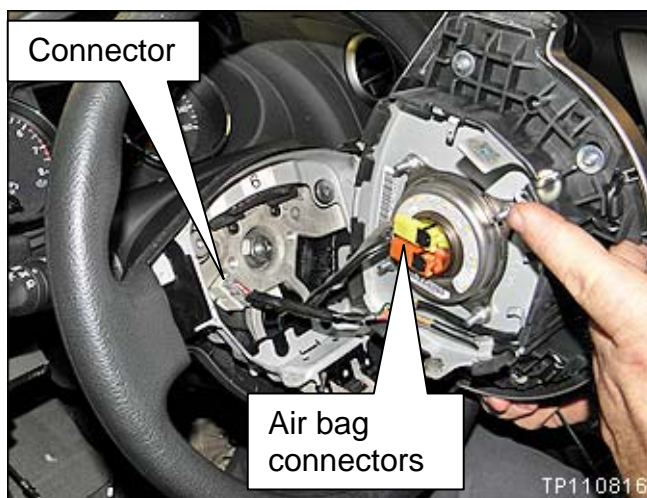

Figure 6
11. Disconnect the electrical connectors shown in Figure 6.